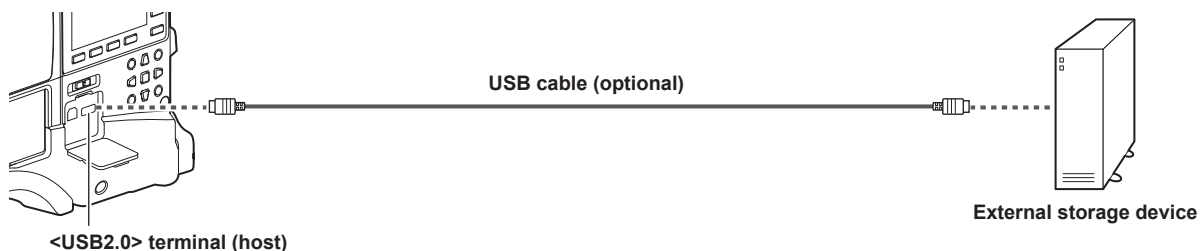

Fig. 1
**1** Connect the storage device to the <USB2.0> terminal (host). (Fig. 1)